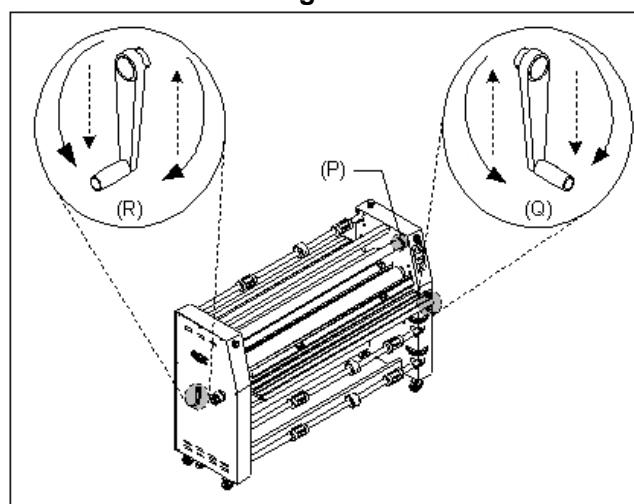

Fig 15
Q. REWIND BRAKE: (Figure 15) Located on the right side from the front operating position.
R. MAIN ROLLER CRANK HANDLE: (Figure 15) Used to raise or lower the upper main roller. Turning the handle clockwise will lower the roller. Counterclockwise will raise the roller.
S. PULL ROLLER CRANK HANDLE: (Figure 15) Used to raise or lower the upper pull roller. Turning the handle clockwise will raise the roller. Counterclockwise will lower the roller.